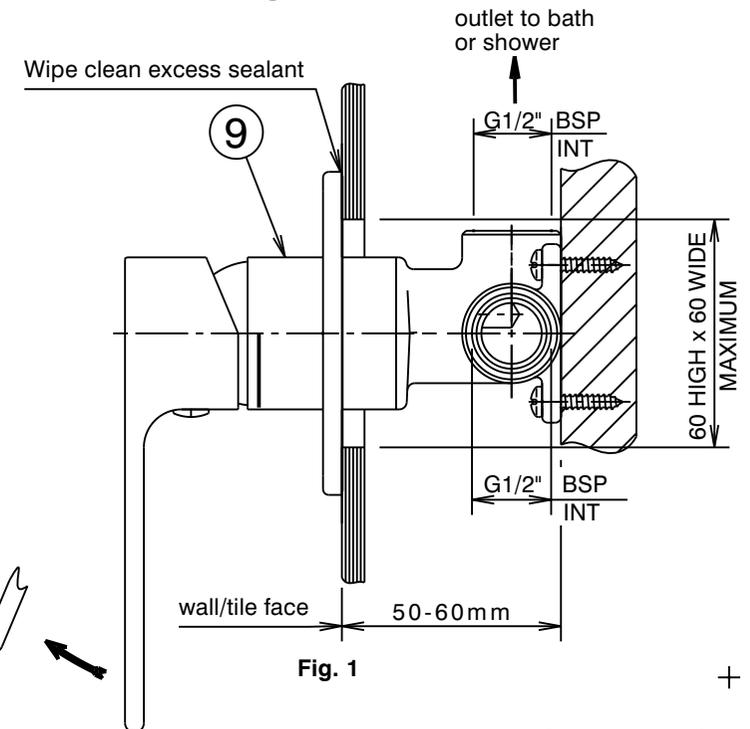

Fig. 1
Installation (Fig. 1 & 2)
- * Top face of sleeve (9) must be horizontal to ensure that wall cover plate (5) aligns with tile joints.
- 2) **Trim kit:** Apply a suitable clear sealant to the back face of the cover plate (5), leaving an unsealed section at the bottom for drainage. Carefully fit the cover plate (5) onto the mixer body (9), ensuring the 'Caroma' logo is at the bottom. Push the cover plate (5) firmly against the wall/tile face . Wipe clean any excess sealant from the chrome surfaces & the wall/tile face (See Fig. 1).
- 3) Fit handle (1) taking care that it is pushed fully onto cartridge stem, then tighten grub screw (4) using the 2.5mm allen key (3). Fit plug (2), taking care not to damage the decorative finish.